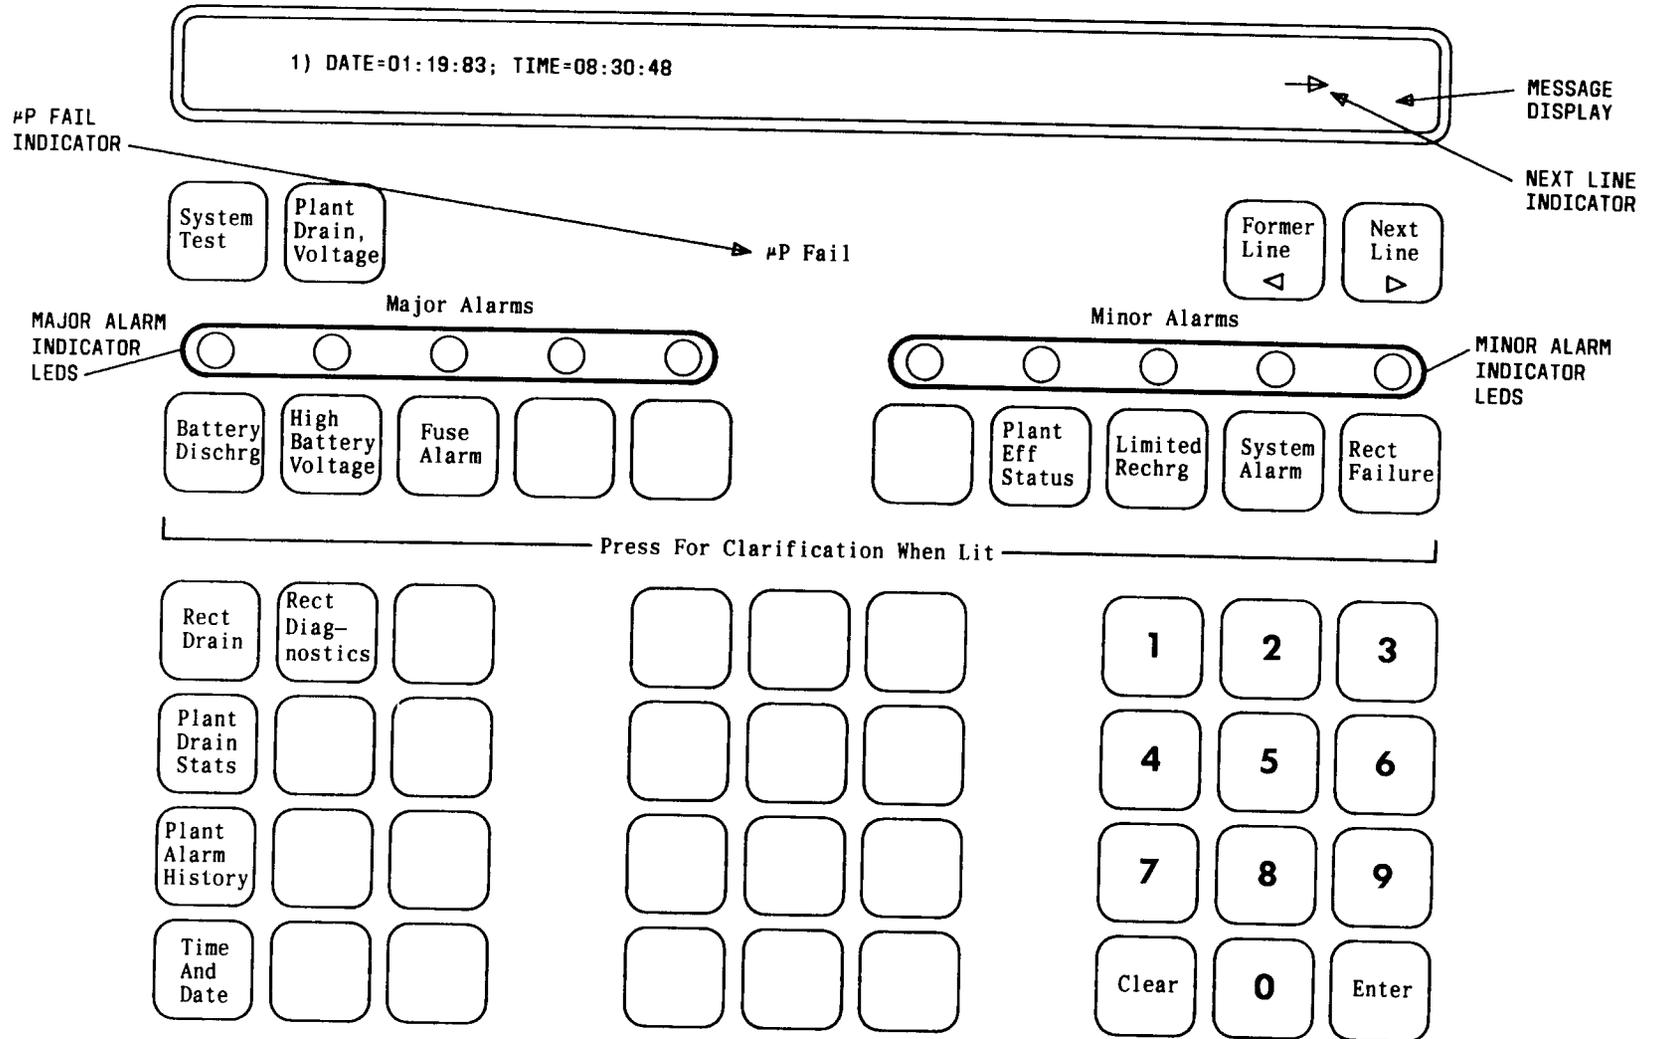

Fig. 5—Smart Plant Controller Controls
3.03 The front panel of the controller (Fig. 5) has a black polymer face and contains the following: